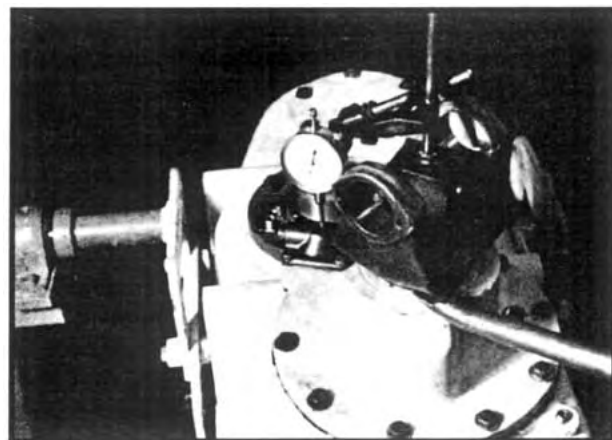

Fig 58
5. Make sure that the front bearing cup is still in place. Position a new gasket on the transfers case housing and lower the rear output shaft assembly into place. The work "TOP" on the carrier must be toward the top of the transfer case as installed in the vehicle. Install the (10) cap screws and washers to secure the carrier to the transfer case housing. Torque to specification.
7. Mount a dial indicator on the shaft as shown in Figure 58. Pry the rear output shaft up and down several times to be sure that the front bearing cup is seated. Note the indicated shaft end float on the dial indicator. If the end float is not within specification (.003 to .008 in.), the shim pack should be removed and replaced with a combination of shims which will provide the specified end float. See Item 16 on P.10 in the parts manual for a list of available shims. Be sure to recheck the end float afterwards.